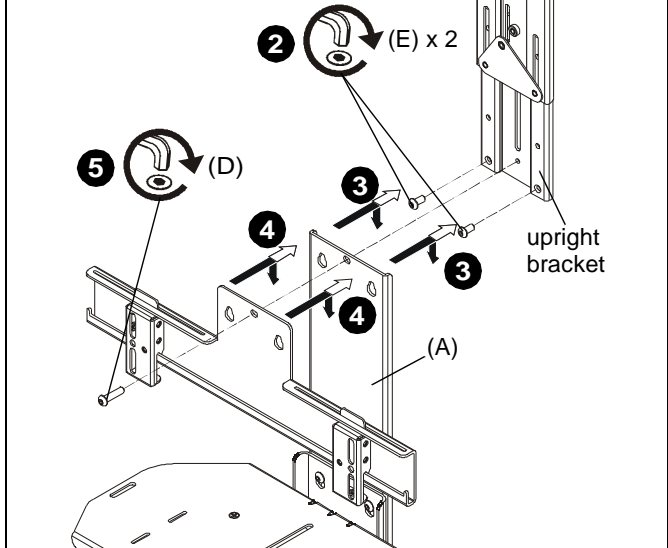

Figure 7
2. Loosely install two 1/4-20 x 5/8" button head cap screws (D) into outside holes of upright bracket if installing to wall mount. Loosely install two 1/4-20 x 1/2" button head cap screws (E) into outside holes of upright bracket if installing to cart/ceiling mount. (See Figure) or (See Figure 7)
3. Hang assembled FCA870 shelf onto two screws installed in Step 2. (See Figure) or (See Figure 7)
4. Hang speaker bracket removed in Step 1 onto two screws installed in Step 2. (See Figure) or (See Figure 7)
5. Use 1/4-20 x 3/8" button head cap screw (F) to secure bracket and shelf to upright bracket if installing to wall mount. Use 1/4-20 x 5/8" button head cap screw (D) to secure bracket and shelf to upright bracket if installing to cart/ceiling mount. (See Figure) or (See Figure 7)